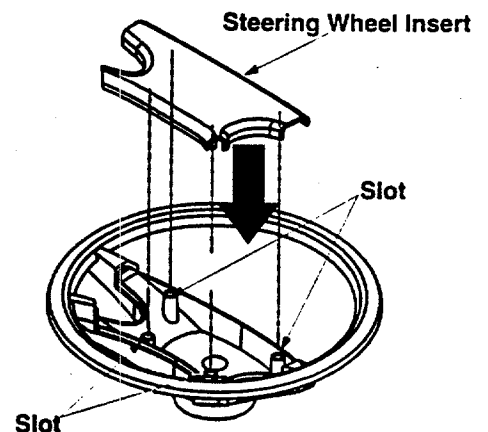

Figure 9
- Press the steering wheel insert onto the steering wheel aligning the four tabs in the rear of the steering wheel insert with the four slots in the steering wheel so that the cap fits snugly. See Figure 9.